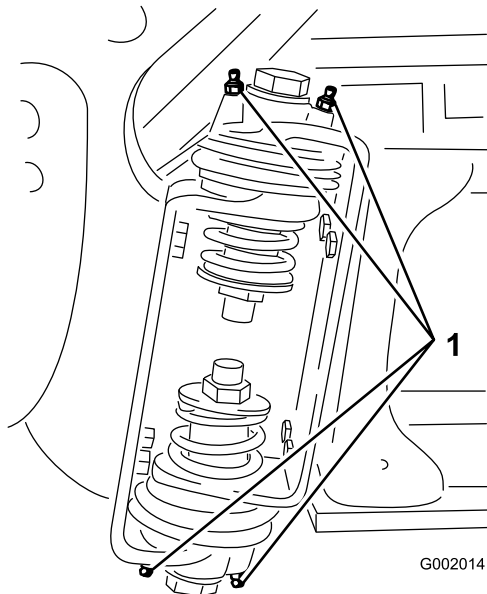

Figure 37
2. Pump grease into the bearing or bushing at each fitting (Figure 37).